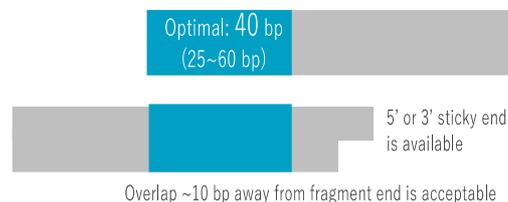

Figure 5. Design of overlapping
a. Design and preparation of DNA fragments (Figure 5)